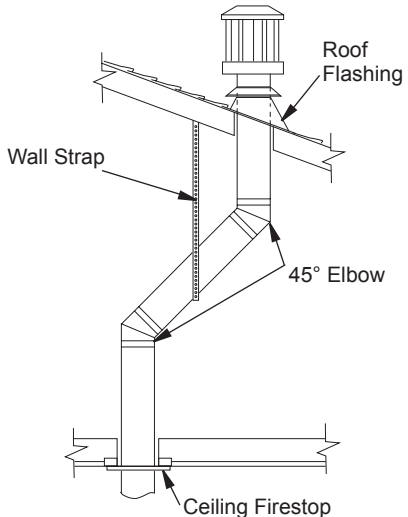

Figure 20 - Offset with Wall Strap and 45° Elbows
1. Determine the route your vertical venting will take. If ceiling joists, roof rafters, or other framing will obstruct the venting system, consider an offset (see Figure 20) to avoid cutting load bearing members.
4. Connect a section of pipe and extend up through the hole. *Note: If an offset is needed to avoid obstructions, you must support vent pipe every 3 feet. Use wall straps for this purpose (see Figure 20, page 14). Whenever possible, use 45° elbows instead of 90° elbows. The 45° elbow offers less restriction to the flow of flue gases and intake air.*
5. Place flashing over pipe section(s) extending through the roof. Secure base of flashing to roof and framing with roofing nails. Be sure roofing material overlaps the top edge of the flashing as shown in Figure 20, page 14. There must be a 1" clearance from vent pipe to combustible materials.